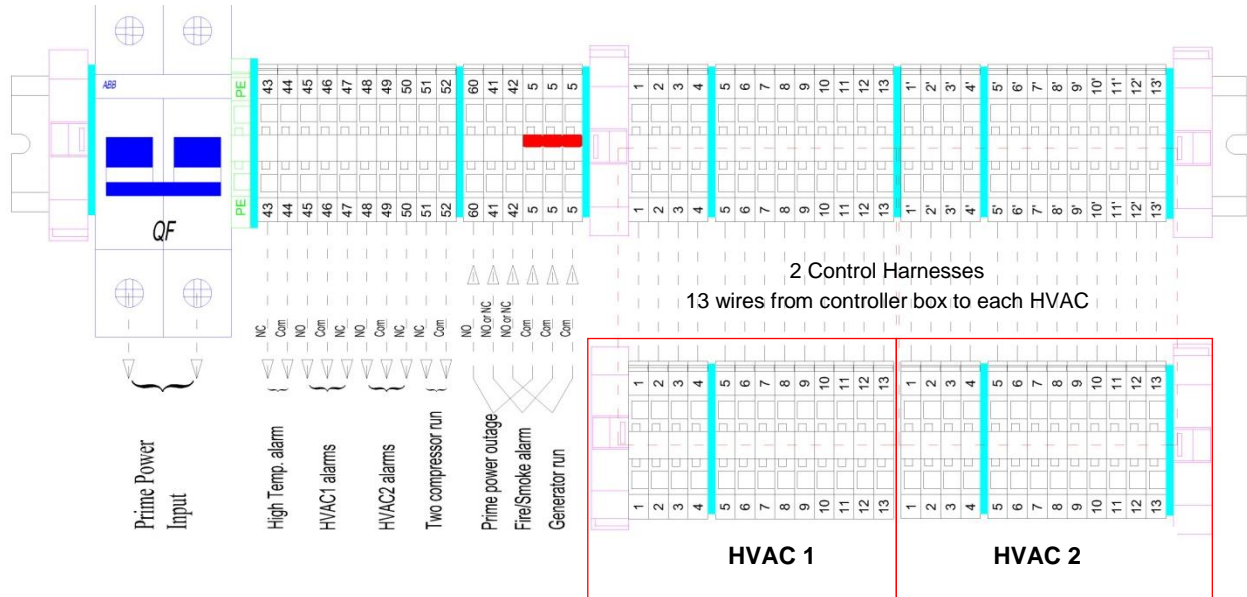

Figure 13: Field Wiring Terminals
Figure 13 illustrates the wiring terminals in the control box. Each unit has an identical set of terminals. The terminal numbers for the second unit are distinguished with a single quote (') after the number.
1. Bring the control harness (item 3 in Table 5: Materials Supplied by the Installer on page 14) from the controller box to the IPU by passing it through one of the three available punch-outs on each side of the IPU. Make the thirteen wire connections inside the IPU according to Figure 13: Field Wiring TerminalsFigure 13: Field Wiring Terminals on page 27.